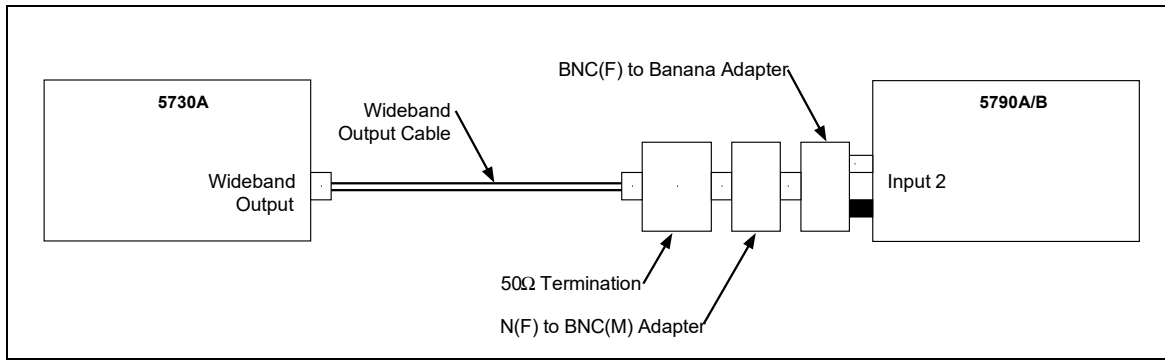

Figure 21. Wideband Accuracy at 1 kHz Test Setup
1. Connect the equipment as shown in Figure 21.